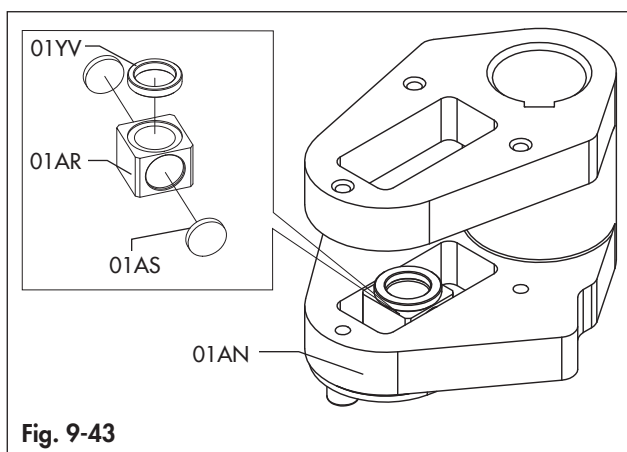

Fig. 9-43
- Assemble the lower sliding block (01AR) with the sliding plates (01AS) and the bottom thrust bearing (01YW) and place them inside the yoke lower wing. (Fig 9-43).